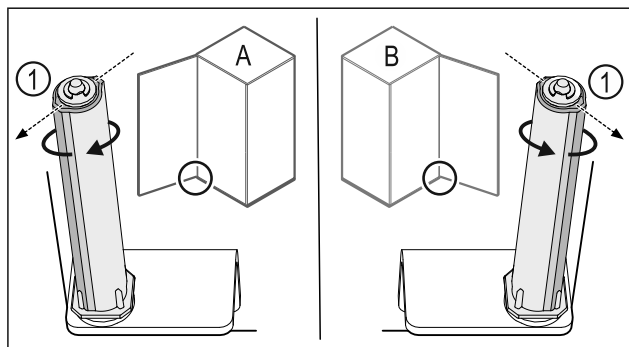

Fig. 48 Left stop (A) / right stop (B)
- Turn the locking system against the resistance until the bar on the locking system Fig. 48 (1) is pointing outwards.